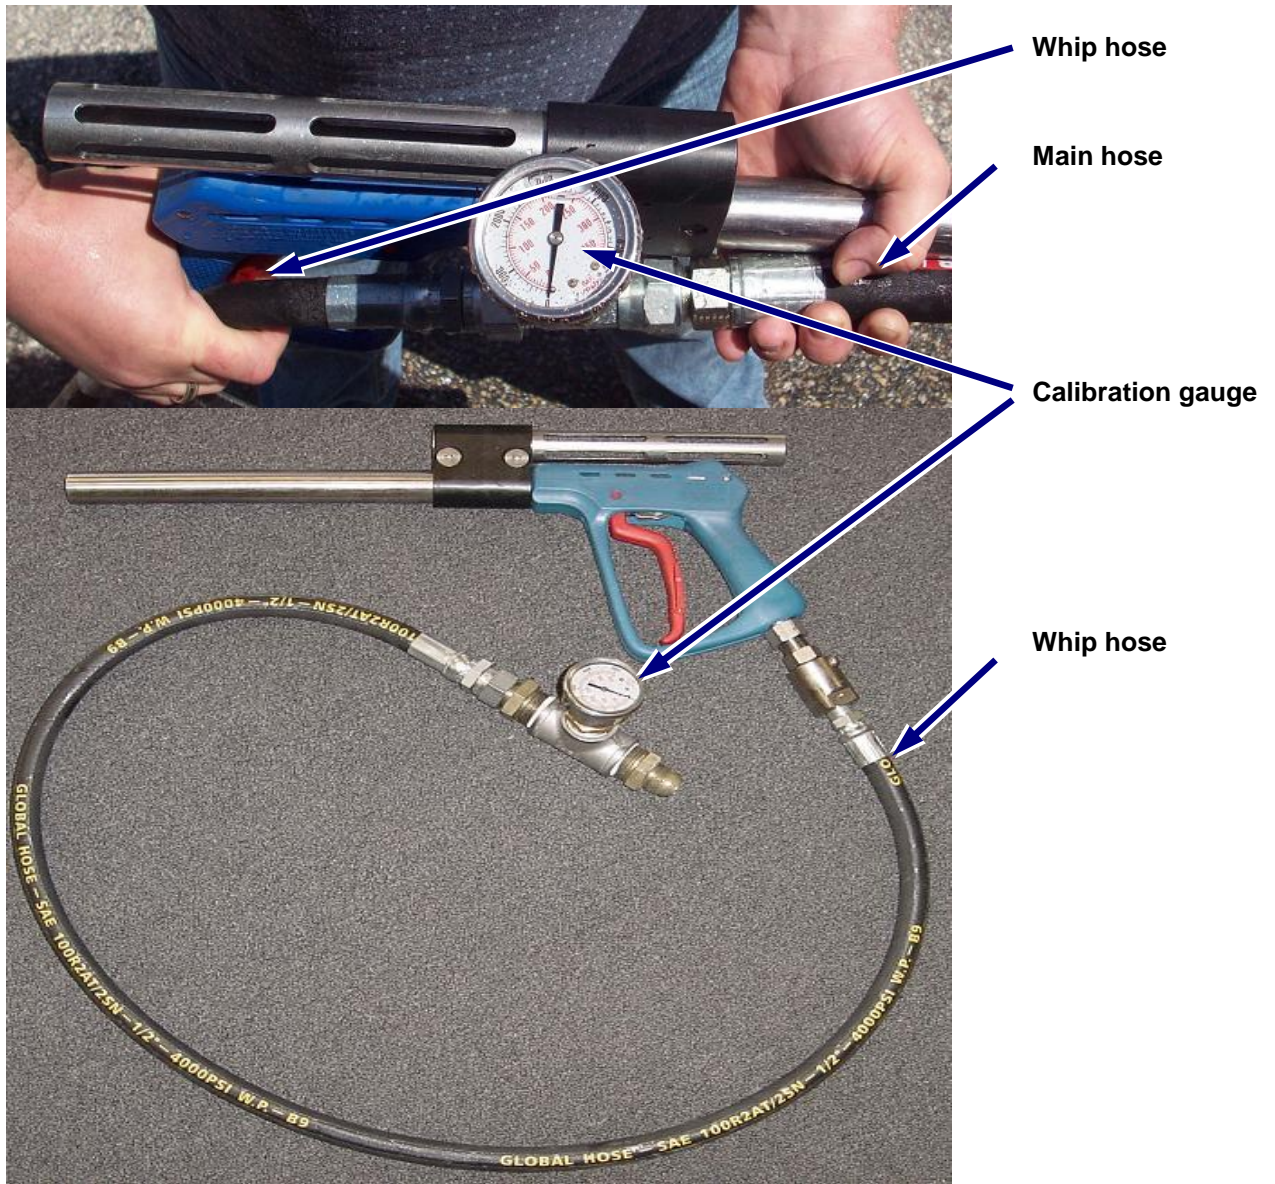

Figure 5.2 – Lance Pressure Calibration
- Hold the lance tight and observe the calibration gauge (See Figure 5.2).